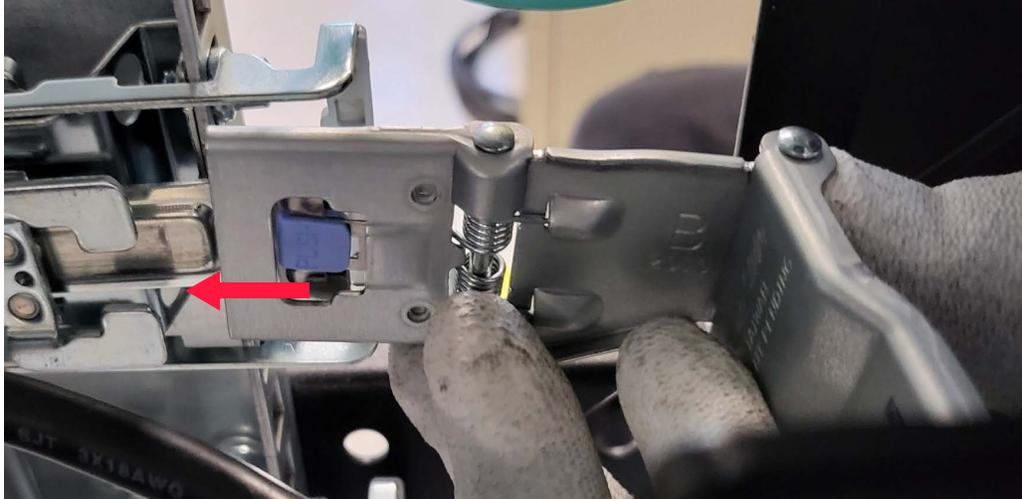

Figure 8.33 Aligning inner CMA arm connector and inner arm rail connector
2. Align the inner CMA arm connector with the inner CMA arm rail connector, as shown in Figure 8.33.